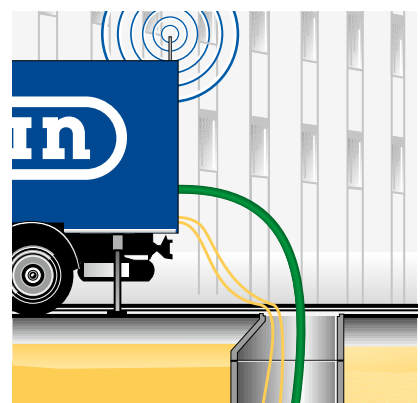

Fig. 3: Steam unit with integral process control
4. Sealing the pipe and heating it with steam. The pipe „remembers“ and reverts to its original circular cross-section (memory effect). (Fig. 3)